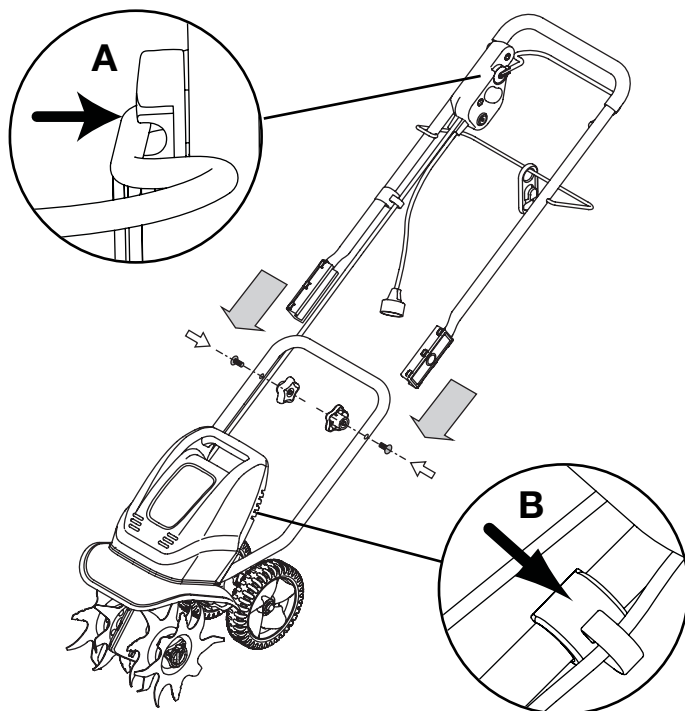

Fig. 1
1. When you unpack the unit, hold the handle bar in the position shown in Figure 1 and slide it onto the lower bars.
5. Check to make sure the bail is assembled into the switch assembly (Fig. 1, Inset A).
6. Clip the switch cable to the cable restraint on the lower bar as shown in Figure 1, Inset B.